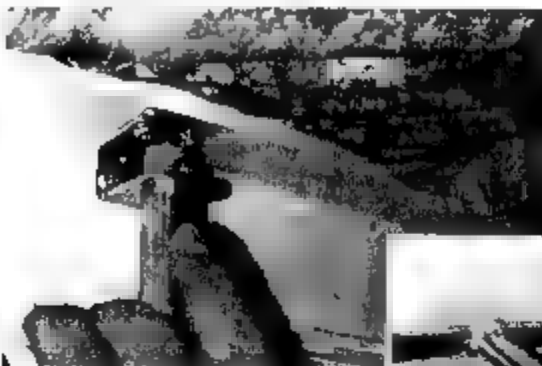

Fig. 13A & 13B. Roof bracket for tent pole (valance not shown for clarity)
9. Inside the unit, in the bunkend, clip the overhead support pole onto the tent bow, which will be laying on the bed mat. Push the support pole and tent bow up and out, raising the bunkend. Insert the adjuster end of support into the bracket on the inside of the roof end board. Adjust the length of the support bar at the adjuster until the bunkend canvas is tight. See Figs. 13A, 13B & 14.